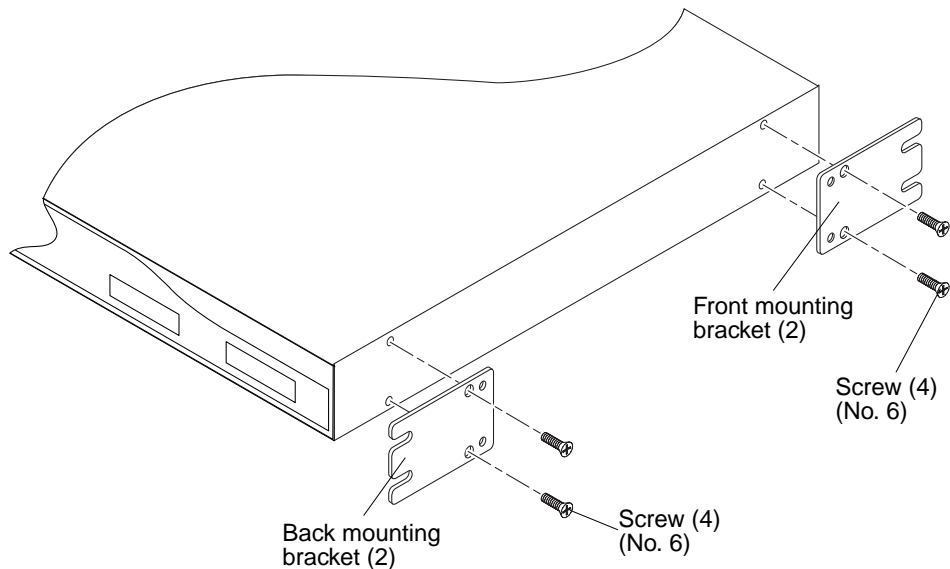

FIGURE 11 Removing and Replacing the C3524 Ethernet Brackets
- 8. Using a No. 2 Phillips screwdriver, remove the two screws securing each front and back mounting bracket from the Ethernet switch (FIGURE 11).**
2. **Using a No. 2 Phillips screwdriver, replace the two screws securing each front and back mounting bracket to the Ethernet switch (FIGURE 11).**